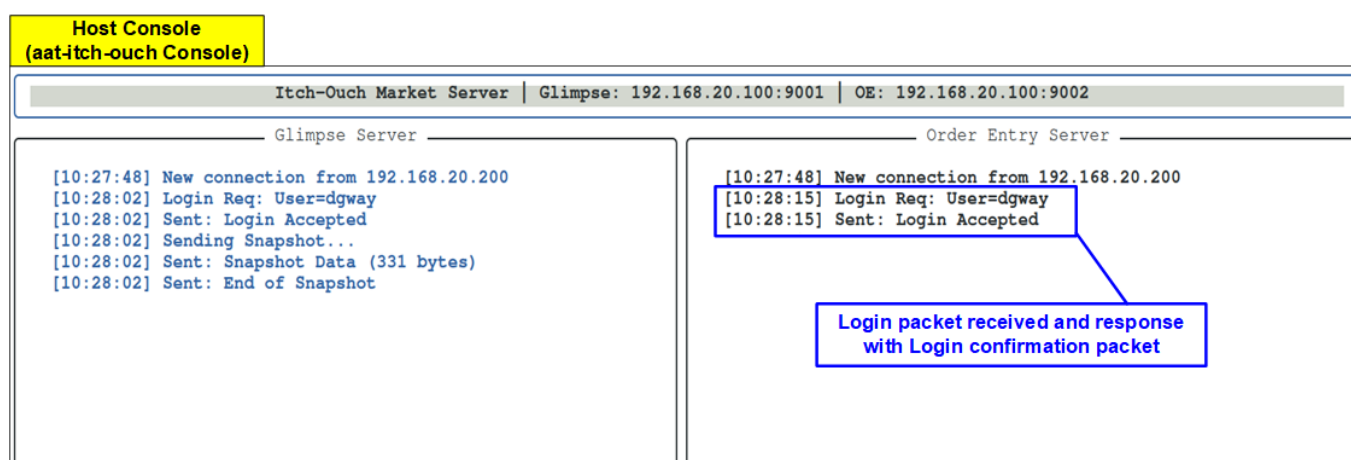

Figure 16 Market Server Console Upon Order Entry Log-in Completion
- 4) After successful initialization, the Market Server console displays the Order Entry login status, as shown in Figure 16.